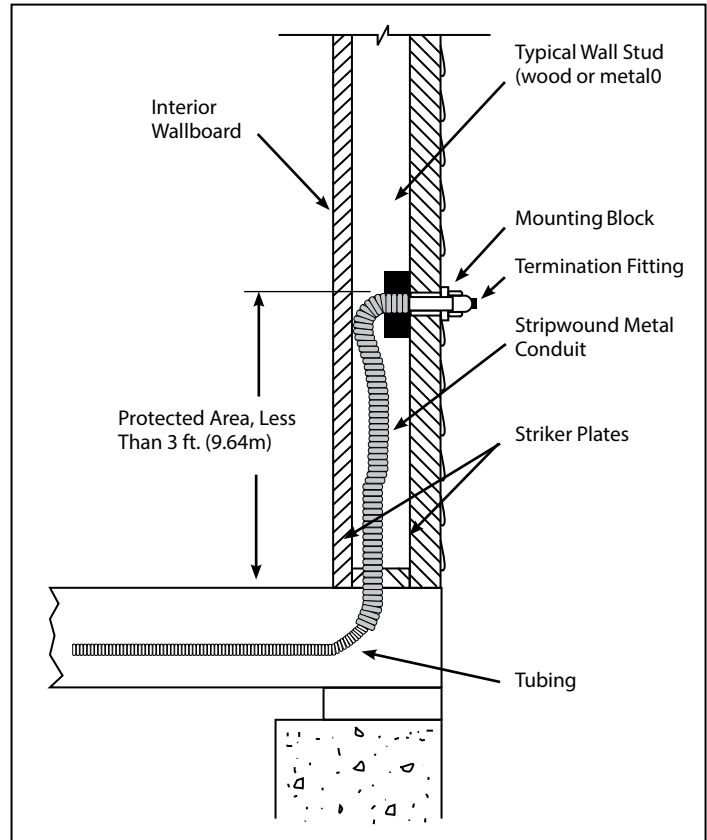

FIG. 4-14 Short Unsupported Tubing Run, under 3 ft. (9.84m), from an Outlet Device within a Wall Partition or Horizontal run between Stud
- E. Install strip wound metal conduit in locations where striker plates are impractical such as termination outlets and stub outs, short tubing runs and where tubing is routed horizontally between studs (see **FIG 4-14**).